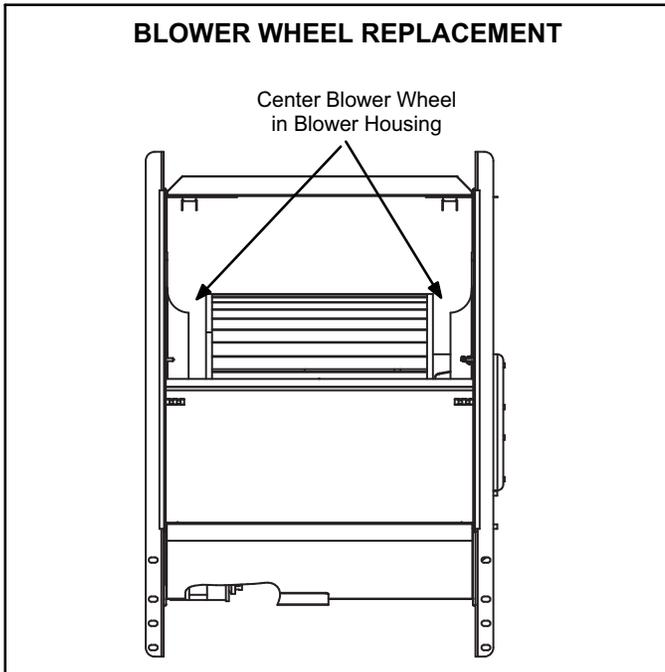
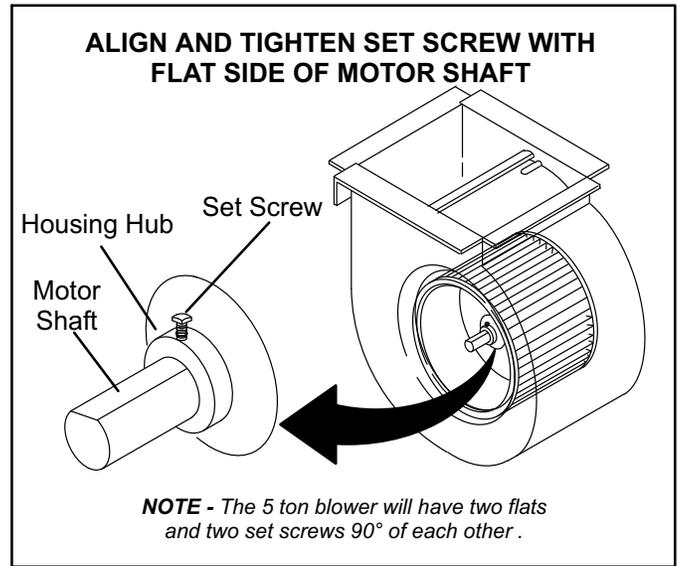

FIGURE 11
FIGURE 12
All ML180UH(X) units use direct drive blower motors. All motors are 120V permanent split capacitor motors to ensure maximum efficiency. Ratings for capacitors will be on motor nameplate. If replacing the indoor blower motor or blower wheel is necessary, placement is critical. The blower wheel must be centered in the blower housing as shown in figure 11. When replacing the indoor blower motor the set screw must be aligned and tightened with the motor shaft as shown in figure 12.